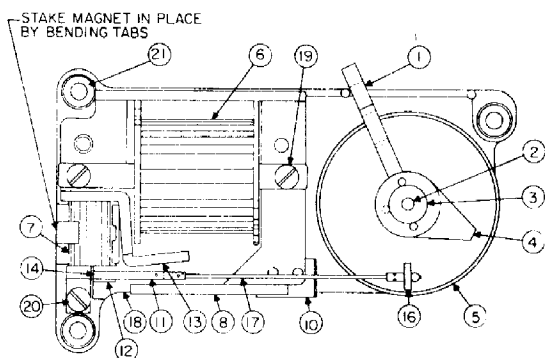

Figure 9. Type 860 Ringer.
11.01 The Type 860 Ringer (Figure 9) used in conjunction with the Type 860 CALL COMMANDER® Telephone Set is a single gong, single coil, straight-line ringer. The components are mounted on a rectangular frame with the gong assembly positioned at one end of the base. Elevated on a mounted platform opposite the gong assembly is the capacitor, clapper assembly, armature assembly, bias-spring assembly and magnet. Extending over the outer rim of the gong assembly is the gong silencer lever that is used to regulate ringing volume. Connected to one of the two pieces of fiberboard that are used to enclose the coil assembly are two wiring leads that are to be connected to transmission-unit terminals. For a complete component description see Table 25.
11.02 To disassemble the Type 860 Ringer (Figure 9), proceed as follows:
- Remove the ringer coil (item 6) by removing the two screws (item 19) from each end of the metal coil support bar.
- Unscrew the armature mounting bracket screw (item 20) from the armature mounting bracket (item 14) to free the armature (item 13) clapper (item 16) clapper rod (item 17) and bias spring (item 9).